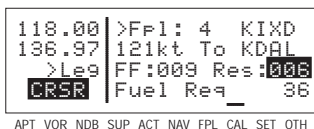

Figure 5-15
7. Move the cursor to the fuel reserve requirement field and enter the desired value. As you do, watch the calculation of fuel required on line 4 change (figure 5-15).